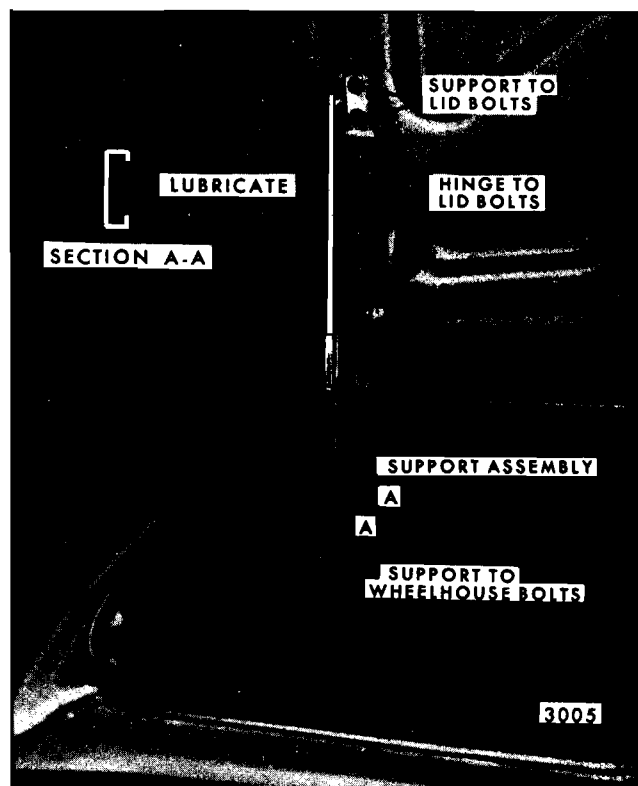

Fig. 2-19—Engine Compartment Lid Lubrication
1. Apply a thin coat of white lithium soap grease (Fiske Bros. Lo-Temp. Lubriplate #777 or equivalent) to the inner surface telescoping channel of the compartment lid support (Fig. 2-19).